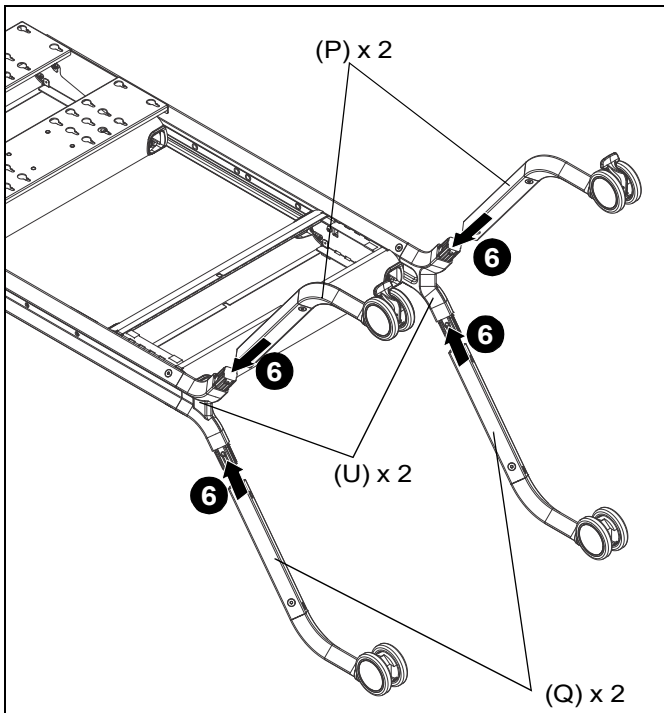

Figure 4
6. Install four legs (P and Q) onto two coupler assemblies (U). (See Figure 4)
**NOTE:** Legs with brakes (P) may be installed to front or back depending on user preference.